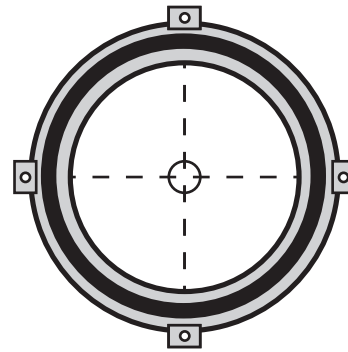

FIG. 8
- 8** Attach four clamps (M6A) onto each filter (D,E), spacing them evenly at 90 degree increments around the rim's diameter [FIG. 8].